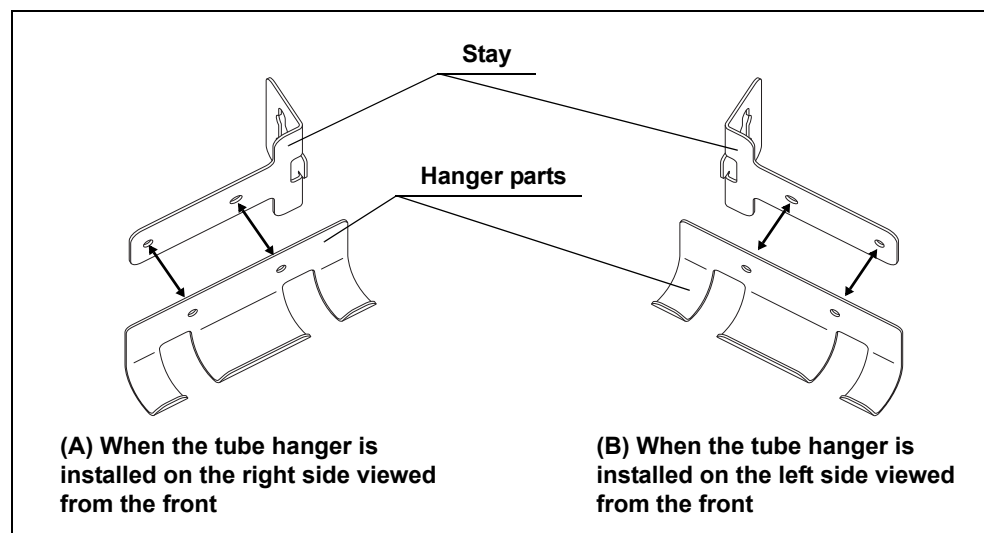

Figure 3.2
- 1 To install the tube hanger on the right side viewed from the front, align the holes of the stay and the hanger part as shown in Figure 3.2 (A).
(To install the tube hanger on the left side viewed from the front, align the holes of the stay and the hanger part as shown in Figure 3.2 (B).)